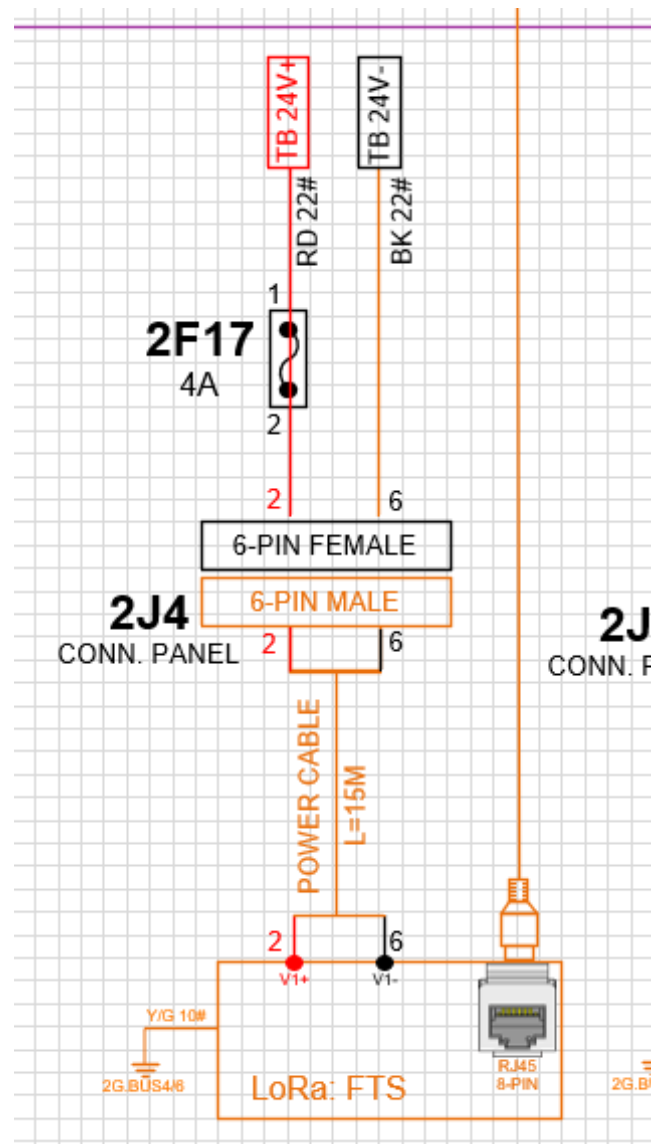

Figure 22 The wire connecting the 2J4 connector to the 2F17 fuse
2. Disconnect the wire that connects the 2J4 connector to the 2F17 fuse (see Figure 22).